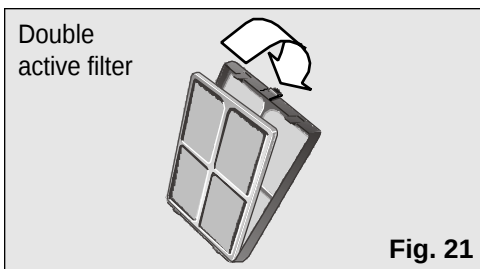

Fig. 21
A double active filter is also fitted inside the basic filter on these models, **Fig. 21**.
- ☐ Change the double active filter inside the basic filter for a new one as shown in **Fig. 21**.